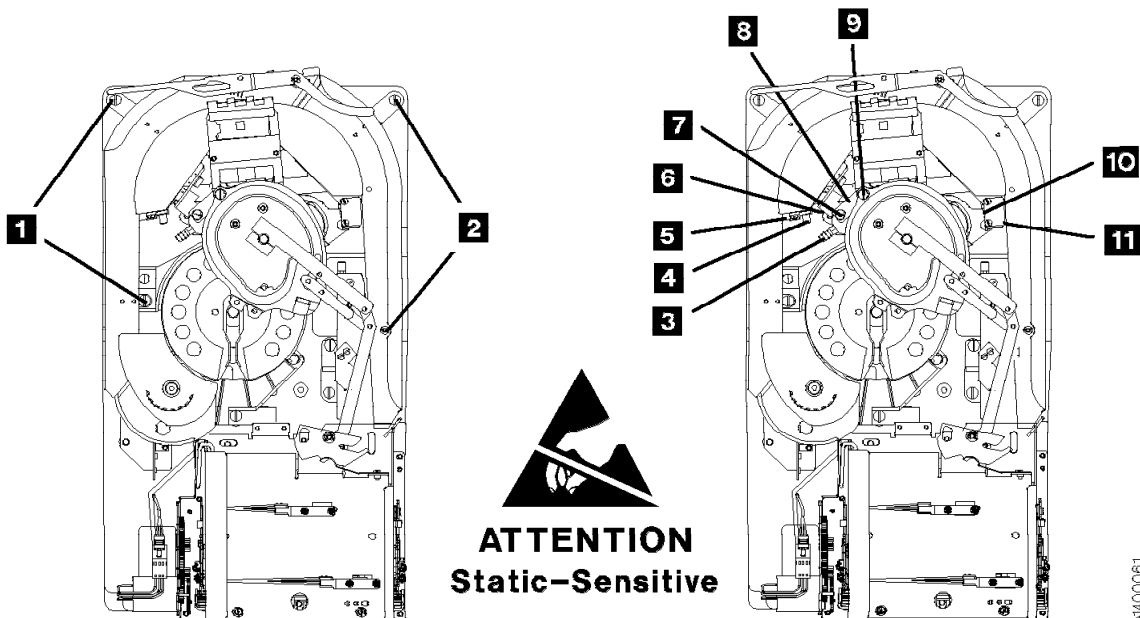

Figure 346. Tape Guides, Tape-Lifter Solenoid, Hoses, and Connectors
See Figure 346.
2. **Attention:** When reinstalling the right tape guide and the left tape guide with screws **2** and **1**, as indicated in Figure 346 on page LOC*CAR-88, make sure that the horizontal surfaces of the right and left tape